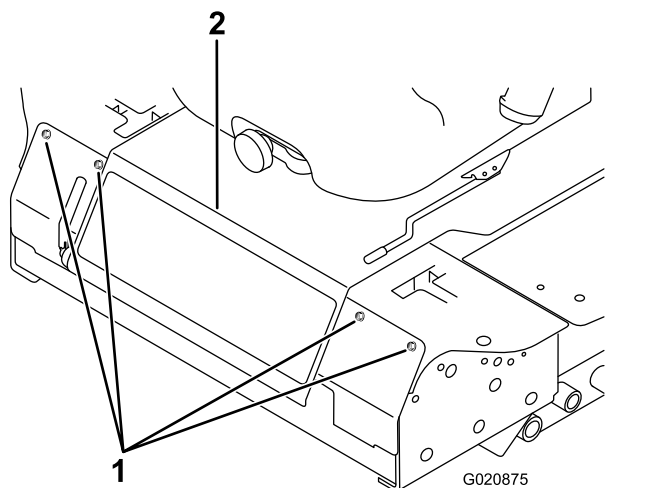

Figure 80
2. Remove the bolts securing the front panel and remove the panel (Figure 80).